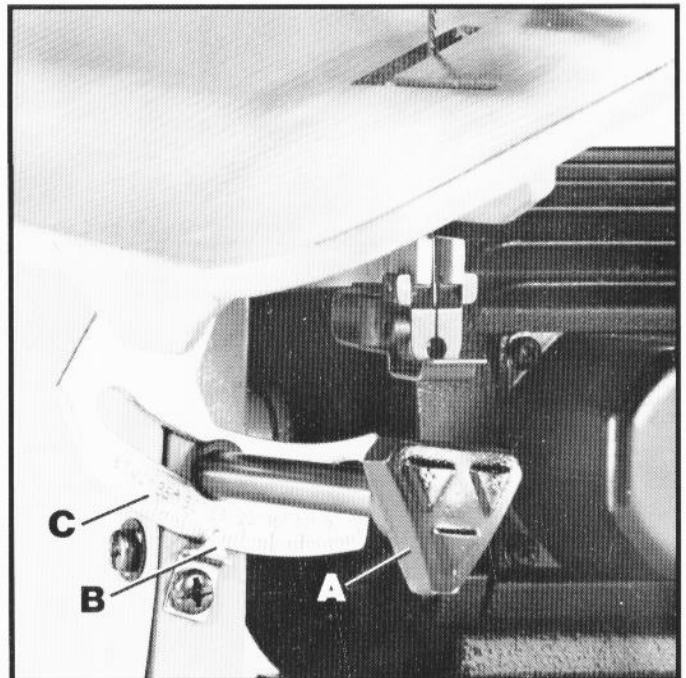

Fig. 16
To tilt the table for angle sawing, loosen table tilting lock knob (A) Fig. 16, and tilt the table until the pointer (B) indicates the desired angle on the scale (C). Then tighten lock knob (A).